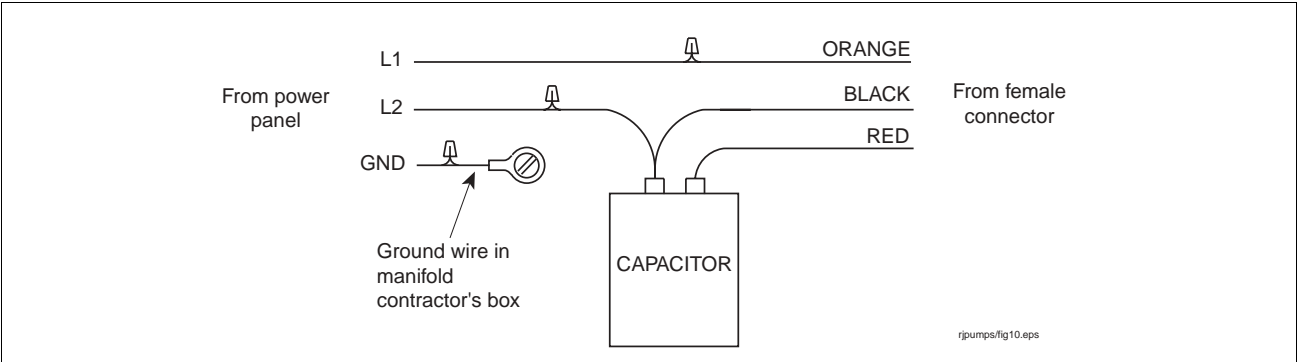

Figure 16. Power wiring schematic for single phase pumps
1. Connect the orange wire from manifold's female connector to L1 from the power panel (see wiring diagram in Figure 16).
rijumps/fig16.eps